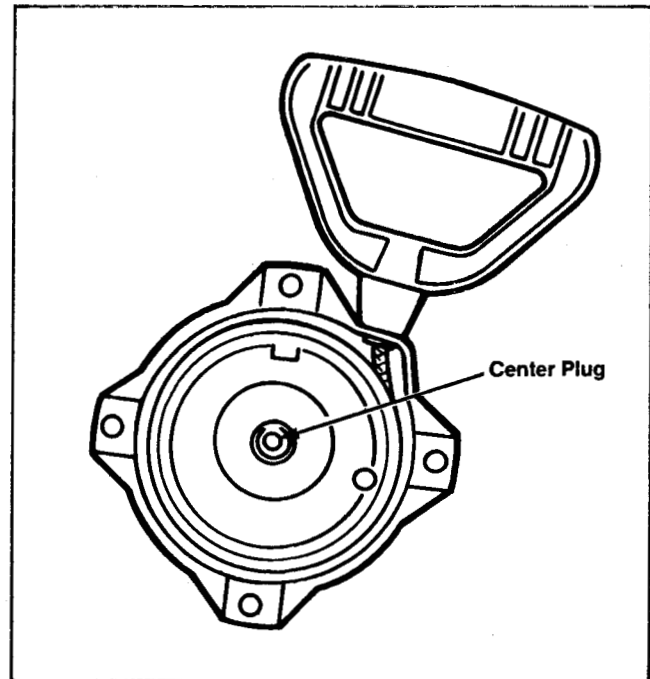

Figure 128
2. If the recoil assembly has a center plug in the housing, push it out and proceed to step 4. See Figure 128. If not so equipped, refer to step 3.